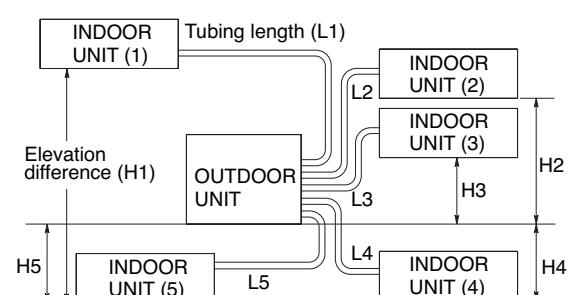

Fig. 3a
- install the unit within the maximum elevation difference (H_1, H_2, H_3, H_4, H_5) above or below the outdoor unit and within a total tubing length ($L_1+L_2+L_3+L_4+L_5$) from the outdoor unit as detailed in Table 3 and Fig. 3a.